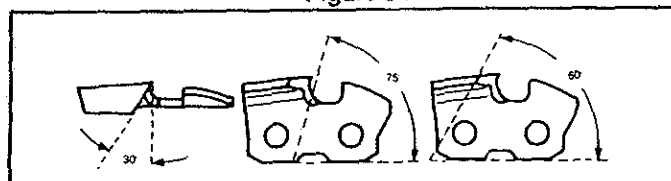

Figure 35
- f.) File 72SG chain to meet specifications shown in Figure 35.
Maintain the proper hook angle according to the manufacturer's specification for the chain you are using. Too much hook angle will increase the chance of kickback which can result in serious personal injury. Figure 35 & 37.